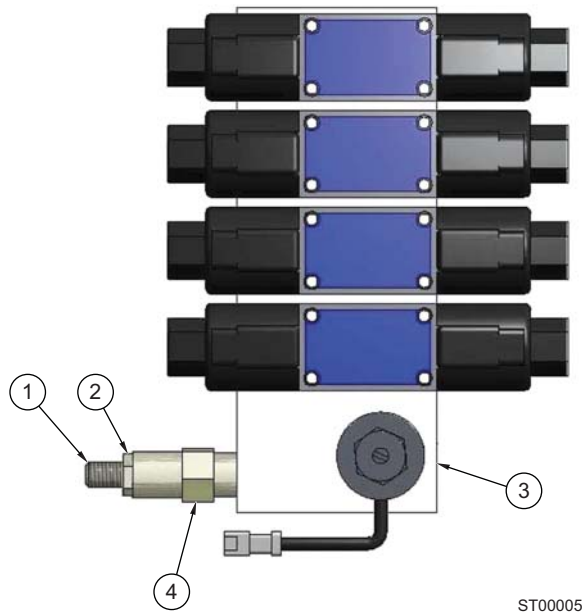

Figure 3-1.
1. Locate pressure gauge in the -4 O-ring near the front bottom side of valve manifold (Figure 3-1, Item 3).
4. Loosen jam nut (Figure 3-1, Item 2) on the relief valve (Figure 3-1, Item 4).
5. Turn relief valve screw clockwise (Figure 3-1, Item 1) if hydraulic system relief pressure needs to be increased, or counterclockwise if hydraulic system relief pressure needs to be decreased.
6. Tighten jam nut (Figure 3-1, Item 2) on relief valve (Figure 3-1, Item 4).